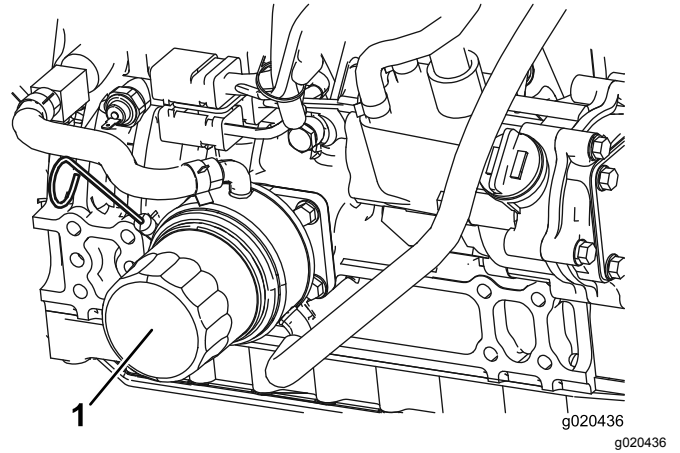

Figure 34
2. Remove the oil filter (Figure 34). Apply a light coat of clean oil to the new filter seal before screwing it on. Do not overtighten.